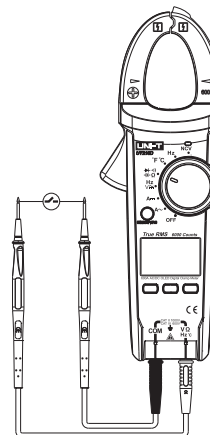

Fig. 8
7.Conductivity inspection (shown as Fig. 8)